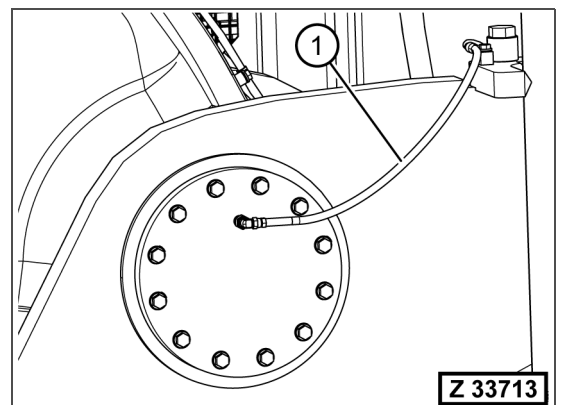

Fig. 5-200 Outer L.H. side bearing
9. Reconnect the grease hose (Fig. 5-200, Pos. 1) at outer L.H. side bearing.